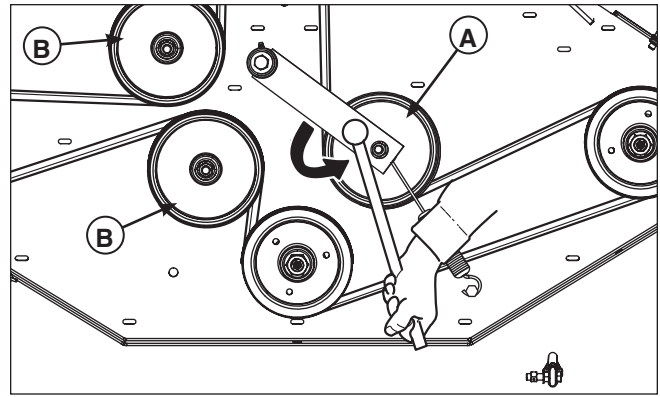
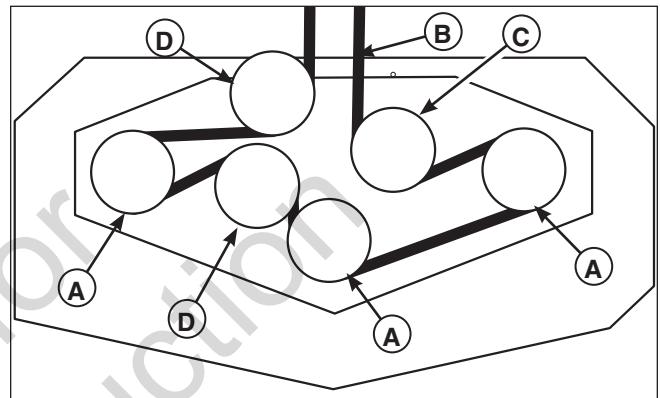

Figure 37. Mower PTO Belt
Figure 38. Mower PTO Belt Routing
3. Using a 1/2" breaker bar, place the square end in the square hole located in the end of the idler arm (A, Figures 37). Carefully rotate the breaker bar COUNTER-CLOCKWISE, which will relieve the tension on the belt exerted from the idler arm.
4. Slide the drive belt over the edge of the stationary idler pulley (B). Carefully release the tension on the breaker bar or the combination wrench.
5. Remove the old belt and replace with a new one. Make sure the V-side of the belt runs in the pulley grooves (Figure 38).
6. Install the drive belt on the PTO pulley, the spindle pulleys and all idler pulleys except the stationary pulley (B, Figure 37). Carefully rotate the breaker bar COUNTER-CLOCKWISE and install the belt on the stationary idler pulley (B). Carefully release the tension on the breaker bar.